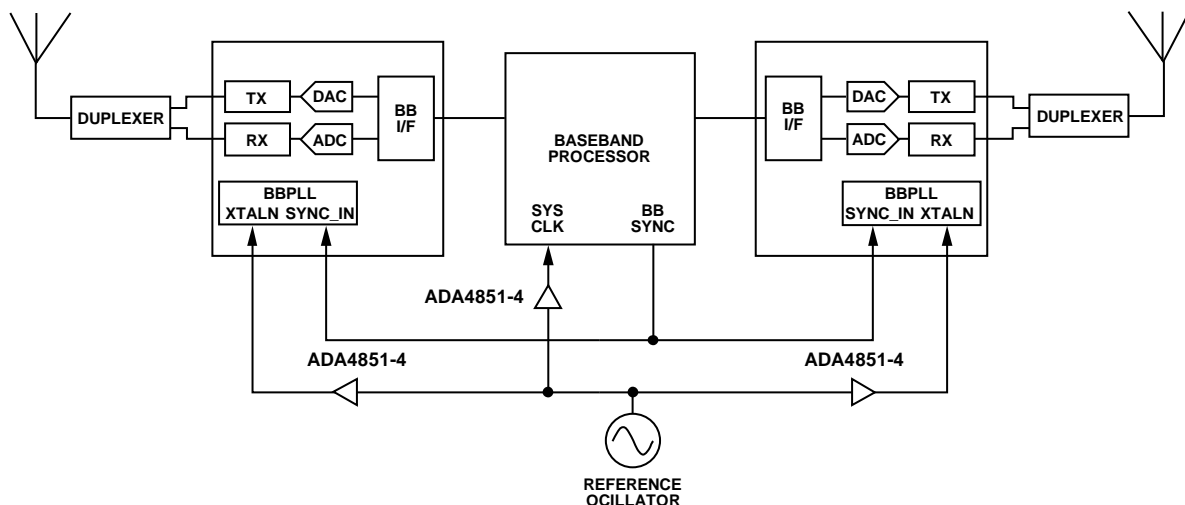

Figure 55. BB Multichip Synchronization Configuration
reference oscillator are required. The AD9364 provides the capability to accept an external reference clock and synchronize operation with other devices using simple control logic. Each AD9364 includes its own baseband PLL that generates sampling and data clocks from the reference clock input, so an additional control mechanism is required to synchronize multiple devices. A logical SYNC_IN pulse input is needed to align each device's data clock with a common reference. Figure 55 illustrates the connections necessary to synchronize two AD9364 devices. The oscillator output is buffered into each device using an ADA4851-4 quad high-speed op amp as a clock buffer amplifier. Another alternative is to use a clock buffer IC like the AD9548 to distribute a buffered clock to each device while minimizing the noise coupling between devices. The procedure following Figure 55 explains how to synchronize two devices, but it should be noted that additional devices could be connected in parallel using this procedure. The total number of devices that can be connected in parallel is limited only by the drive capability of the clock and logic signals.
1. Connect all AD9364 clock inputs to a common buffered reference using the XTALN pin as shown in Figure 55 for proper synchronization. (Figure 55 uses the ADA4851-4 configured as a clock buffer amplifier.) In addition, the electrical length of the trace feeding the reference to each device must be equivalent to avoid clock skew that could cause the sync function to fail.